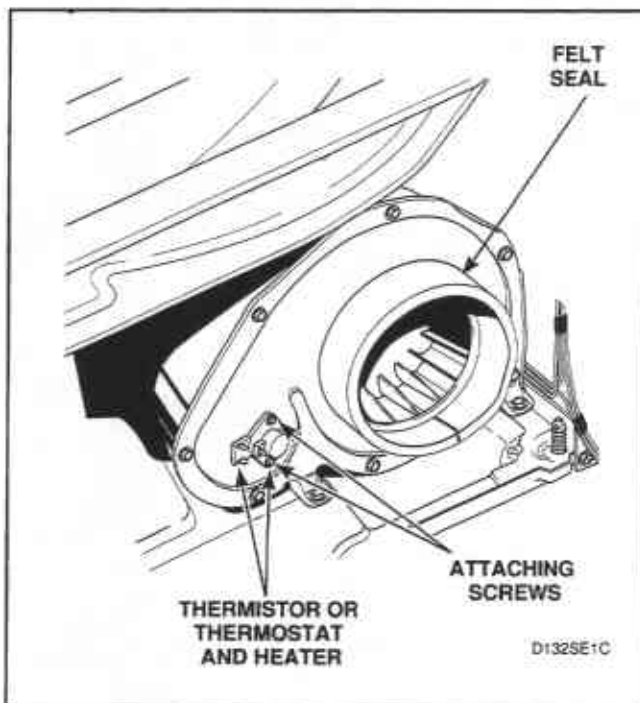

Figure 23
- Disconnect wires and remove thermostat attaching screws, *Figure 23*, and remove thermostat and heater.
IMPORTANT: When reassembling, be sure felt seal on exhaust fan cover makes airtight seal on flange of duct, *Figure 23*. If the seal is installed improperly, the airflow through the exhaust system will be restricted which can adversely affect dryer performance.
- Disconnect wires from thermostat/thermistor and heater, *Figure 23*.